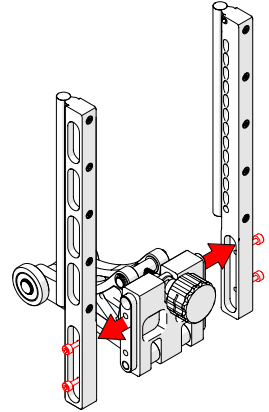

Fig. 12 - Remove clamp arms
3. Unscrew the four bolts to detach the center idler section (Fig. 12).